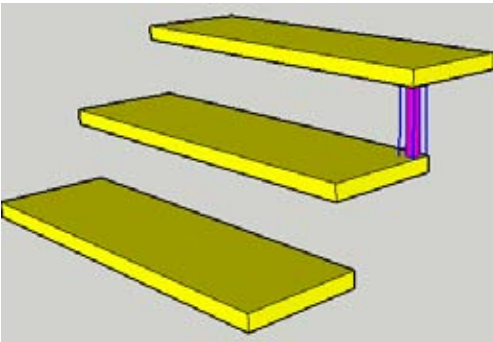

Figure 7-95
3. Create a vertical support between any two treads. The support shown in Figure 7-95 is a simple cylinder. Make the support a component named Support.